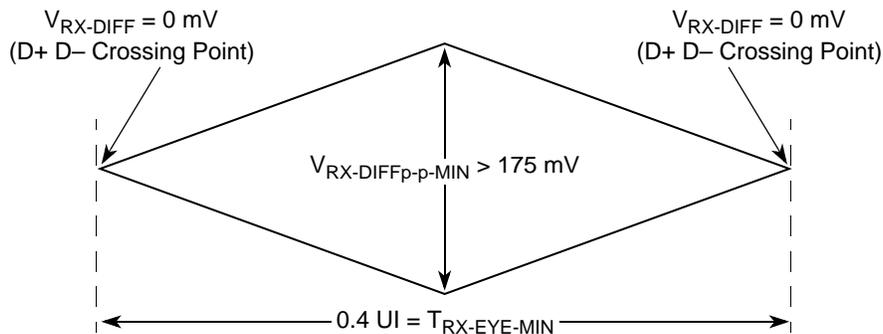
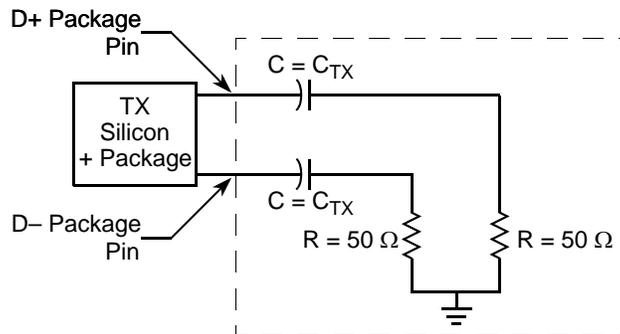

Figure 49. Minimum Receiver Eye Timing and Voltage Compliance Specification
Figure 50. Compliance Test/Measurement Load
2. Specified at the measurement point and measured over any 250 consecutive UIs. The test load in Figure 50 must be used as the RX device when taking measurements (also see the receiver compliance eye diagram shown in Figure 49). If the clocks to the RX and TX are not derived from the same reference clock, the TX UI recovered from 3500 consecutive UI must be used as a reference for the eye diagram.
4. The receiver input impedance shall result in a differential return loss greater than or equal to 15 dB with the D+ line biased to 300 mV and the D– line biased to –300 mV and a common mode return loss greater than or equal to 6 dB (no bias required) over a frequency range of 50 MHz to 1.25 GHz. This input impedance requirement applies to all valid input levels. The reference impedance for return loss measurements for is 50 Ω to ground for both the D+ and D– line (that is, as measured by a vector network analyzer with 50- Ω probes—see Figure 50). Note: that the series capacitors CTX is optional for the return loss measurement.
The RX eye diagram in Figure 49 is specified using the passive compliance/test measurement load (see Figure 50) in place of any real PCI Express RX component.
Note: In general, the minimum receiver eye diagram measured with the compliance/test measurement load (see Figure 50) is larger than the minimum receiver eye diagram measured over a range of systems at the input receiver of any real PCI Express component. The degraded eye diagram at the input receiver is due to traces internal to the package as well as silicon parasitic characteristics which cause the real PCI Express component to vary in impedance from the compliance/test measurement load. The input receiver eye diagram is implementation specific and is not specified. RX component designer must provide additional margin to adequately compensate for the degraded minimum receiver eye diagram (shown in Figure 49) expected at the input receiver based on some adequate combination of system simulations and the return loss measured looking into the RX package and silicon. The RX eye diagram must be aligned in time using the jitter median to locate the center of the eye diagram.
The reference impedance for return loss measurements is 50. to ground for both the D+ and D- line (that is, as measured by a vector network analyzer with 50-Ω probes—see Figure 50). Note that the series capacitors, CTX, are optional for the return loss measurement.
The AC timing and voltage parameters must be verified at the measurement point, as specified within 0.2 inches of the package pins, into a test/measurement load shown in Figure 50.